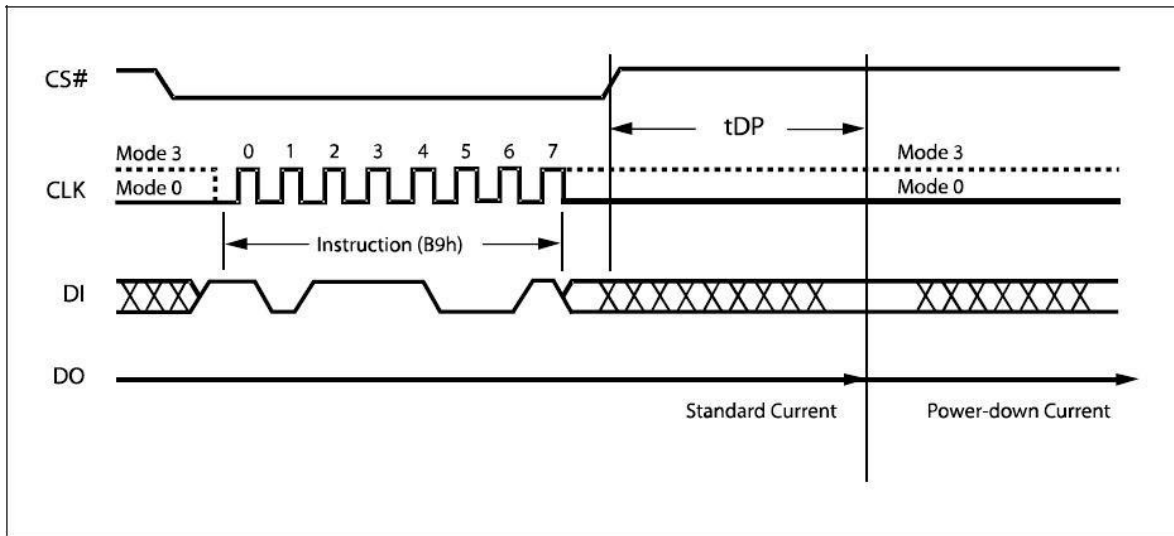

Figure 24. Deep Power-down Instruction Sequence Diagram
The instruction sequence is shown in Figure 24. Chip Select (CS#) must be driven High after the eighth bit of the instruction code has been latched in, otherwise the Deep Power-down (DP) instruction is not executed. As soon as Chip Select (CS#) is driven High, it requires a delay of  $t_{DP}$  before the supply current is reduced to  $I_{CC2}$  and the Deep Power-down mode is entered.